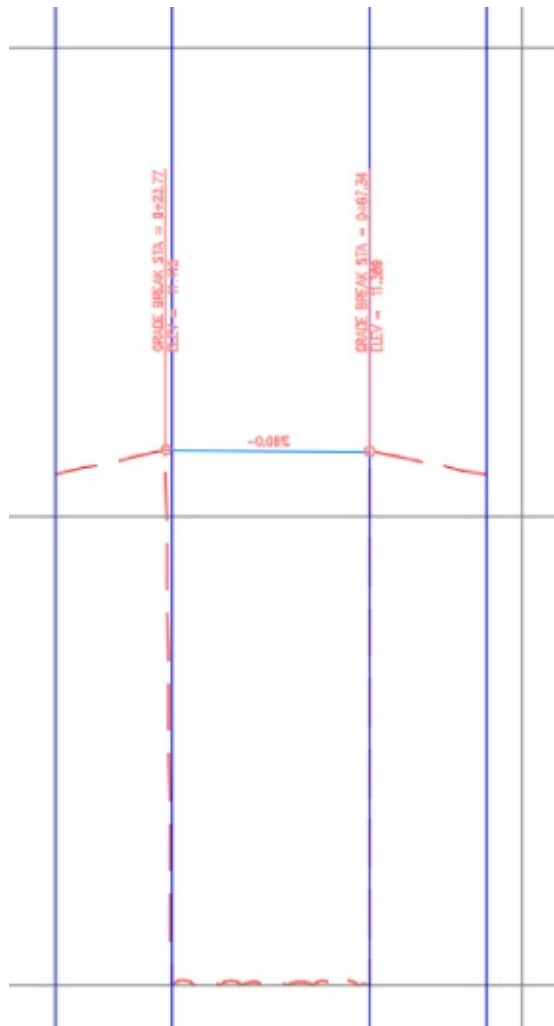

Figure 10.33 Filling in the elevation gap in profile view
19. On the Profile Layout Tools toolbar, select Draw Tangents, and using your Endpoint Osnap, bridge the gap as shown in Figure 10.33.